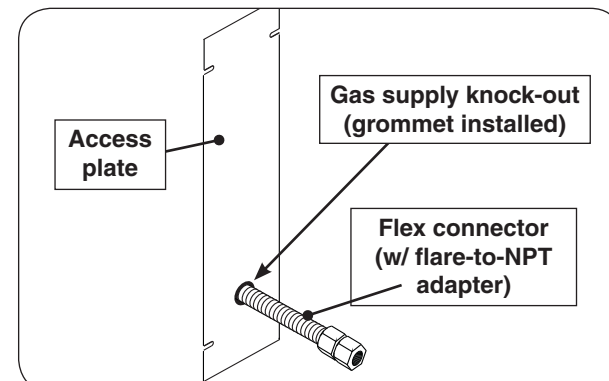

Fig. 18-4 Access plate view & install orientation
2. Remove the plastic grommet (attached to the flex connector) and insert it into the newly created opening. Then route the flex connector through the opening. See Fig. 18-4.